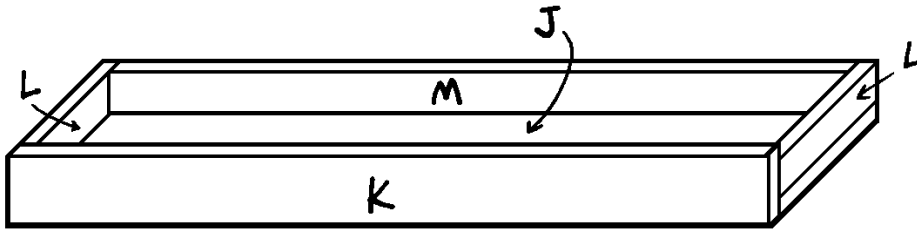

Figure 5
- The center shelves are constructed separately and then attached to the wall between the assembled cabinets. Each shelf unit is constructed in an identical manner. Our completed shelf units measure 58" long, but you can adjust them to exact length that you require between your two cabinets. Cut three 58"-long center shelves (J) from 1 x 6 pine.
2. Cut three 58"-long center shelf trim pieces (K) from 1 x 4 pine
3. Cut six 5-1/2"-long side support pieces (L) from 1 x 3 pine.
4. Cut three 56-1/2"-long back support pieces (M) from 1 x 3 pine.
5. Place one center shelf piece (J) on a level surface and glue one shelf trim piece (K) onto it, flush with one long edge, as shown in *Figure 5*. Insert 1-1/4" screws, spaced approximately 6" apart, through the center shelf trim (K) and into the edge of the center shelf (J).
6. Glue the side support pieces (L) so that their outer faces are flush with the ends of the center shelf (J), as shown in *Figure 5*. Note that the center shelf trim (K) overlaps the ends of the side supports (L) and that the side supports (L) are narrower than the center shelf trim (K). Insert two 1-1/4" screws through the center shelf (J) into the edge of each side support (L).
7. Glue one back support (M) to the remaining long edge of the center shelf (J) between the two side supports (L), as shown in *Figure 5*. Insert 1-1/4" screws through the center shelf (J) and into the edge of the back support (M), spacing them about 6" apart.